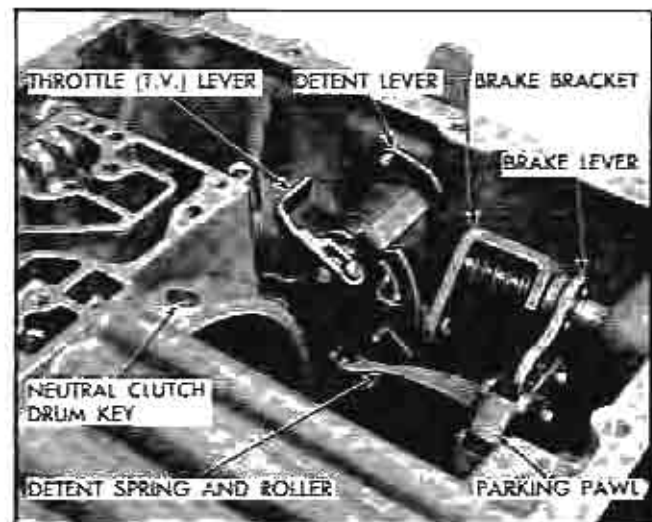

Fig. 66 Levers and Parking Linkage
15. Remove neutral clutch drum locating key from transmission case (Fig. 66).
1. Loosen inner T.V. (throttle) lever to T.V. shaft clamp screw (Fig. 66).